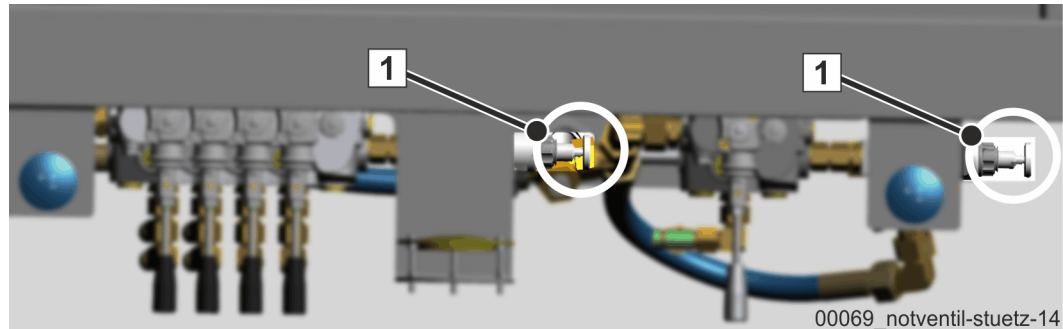

Fig. 222 Emergency valve for release button (S 56/65 SXF)
For machine models with type S 56/65 SXF, the valve on each release button has to be actuated manually (1) (**Fig. 222**) in addition to the control lever (7).